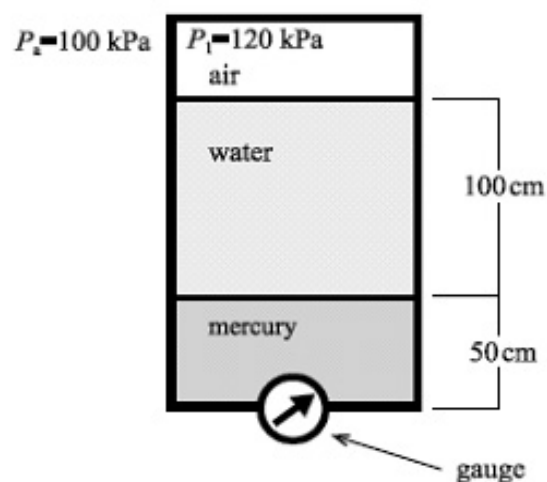

Fig. 6
- (c) Fig. 6 shows a cross section of a tank filled with water, mercury and air.